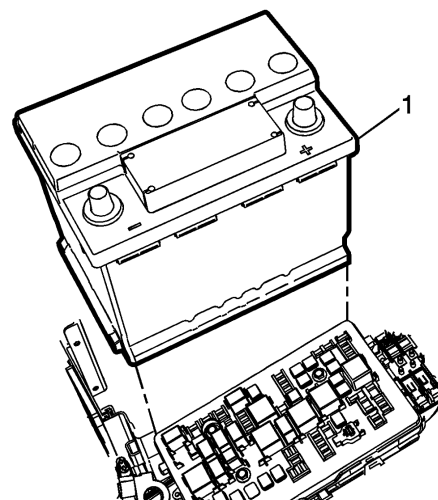

Fig. 6 Battery removal
10. Remove battery (1) from engine compartment, **Fig. 6**.
1. Install battery (1) into position on battery tray, **Fig. 6**.